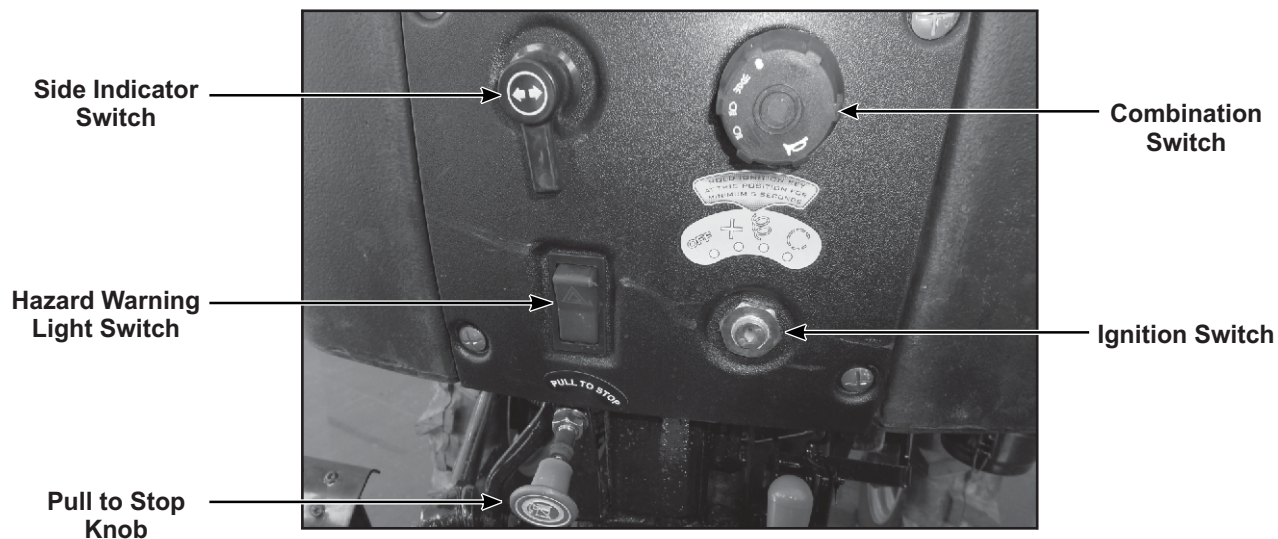

Fig. 3.3a
3.3.a Dashboard Controls for 20 model (Fig. 3.3a):